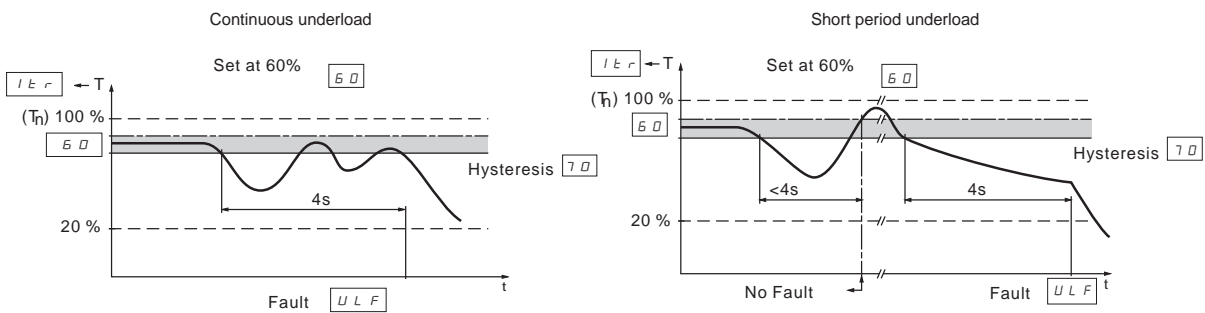

Figure 35: Motor Load Limit Examples
- To protect against underload conditions during steady state operation, the underload limit may be adjusted from 20 to 100% of the motor load state. See Figure 35. An underload fault is detected after 4 seconds of operation below the user-defined level. Brief underload conditions are allowed without nuisance tripping if the loading returns to a level 10% or more above the underload limit within 4 seconds.